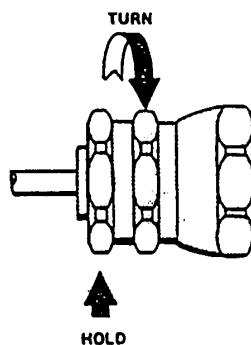

Figure 7 Remove Coupling from Gas Line
3. Use two wrenches to disconnect the coupling body from the adapter. Hold the adapter with one wrench. Remove the coupling body with the other wrench. See Figure 7.